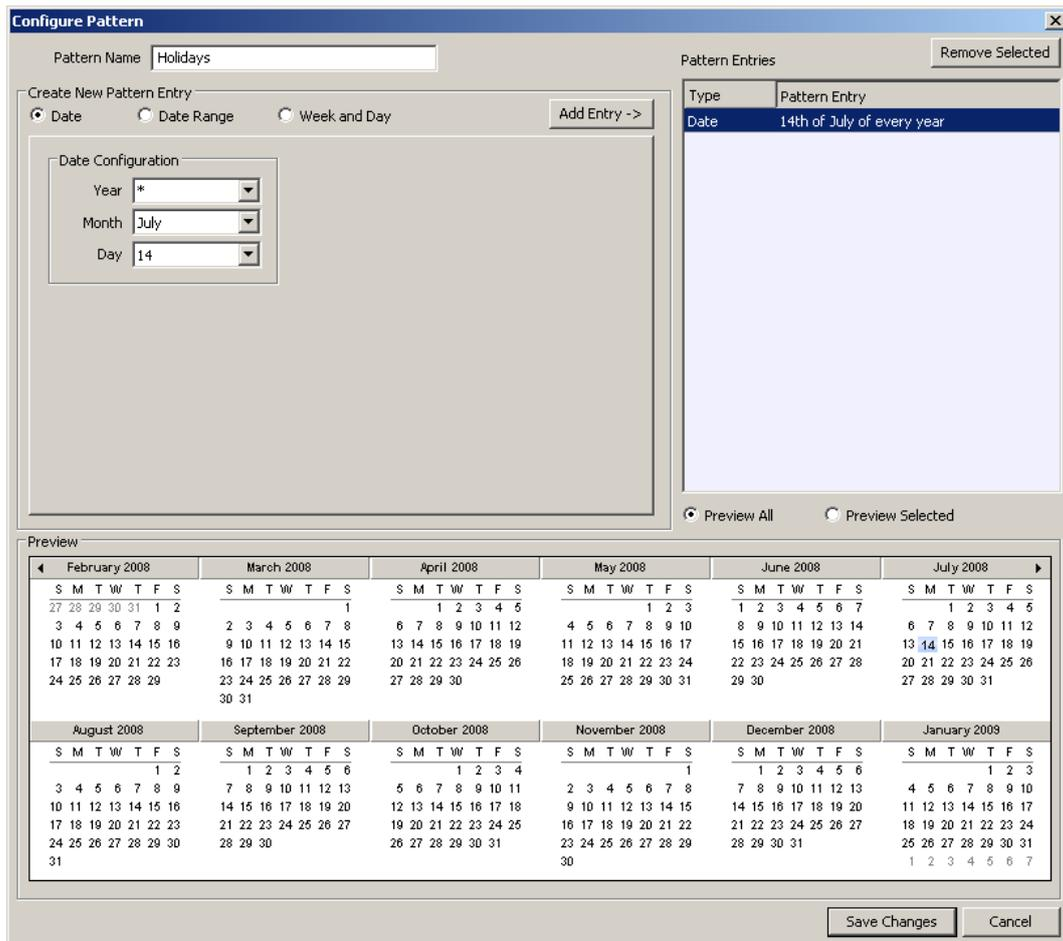

Figure 122: Configure Calendar Pattern Dialog.
4. The **Configure Pattern** dialog appears as shown in Figure 122. Add dates to the calendar pattern by entering a Date Configuration. Then click **Add Entry**. The date appears in the **Pattern Entries** list on the right-hand side.